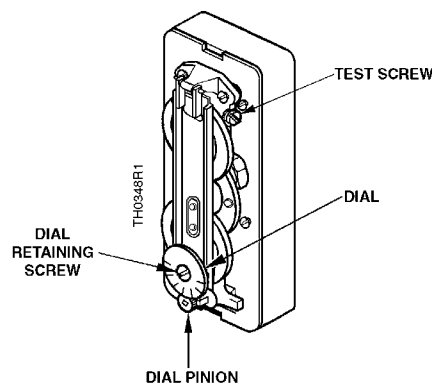

Figure 3.
3. Loosen test screw (see Figure 3) 1/2 turn counterclockwise then attach test gauge and hose assembly over the test screw body.
5. If the dial reading and room temperature do not agree, loosen dial retaining screw. (See Figure 3.)